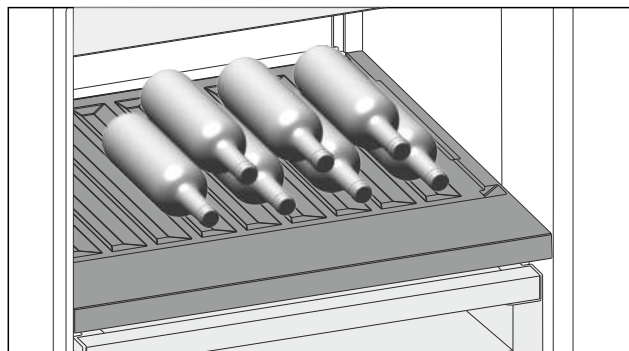

Fig. 110
- Place bottles in the back row with their bases against the back wall. (see Fig. 110)